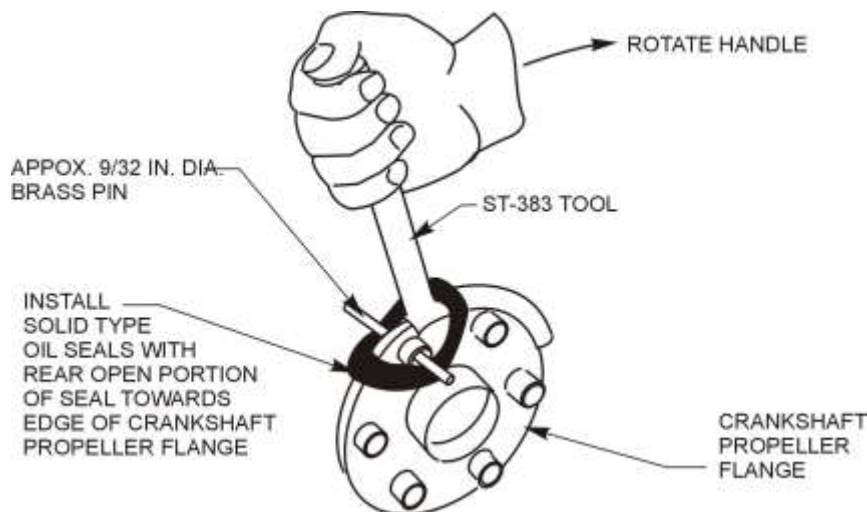

Figure 49
- (e) Put a brass pin approximately 9/32 in. diameter by 3 in. long through the crankshaft propeller flange bushing to hold both sides of the seal in place as shown in Figure 49.
- (g) Install the oil seal over the edge of the crankshaft propeller flange with the groove (open portion) of the seal towards the crankshaft propeller flange. Refer to Figure 49.
- (h) Install the Crankshaft Oil Seal Installation Tool ST-383 under the seal and over the edge of the crankshaft propeller flange as shown in Figure 49. Use even pressure with your hand, carefully turn the tool to force the oil seal over the crankshaft propeller flange and use care not to damage the seal.